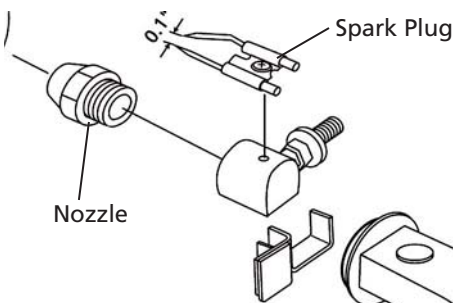

Figure 13 – Spark Plug Replacement
- Remove spark plug wire from spark plug (See Figure 13).